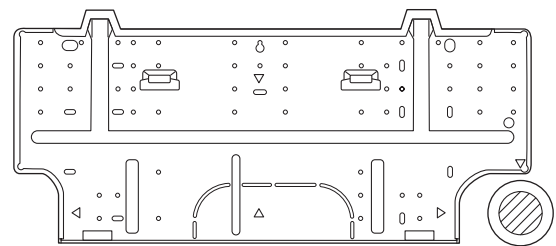

Fig. 13
- Attach the rear panel to the wall with the 8 screws provided. (Fig. 13)